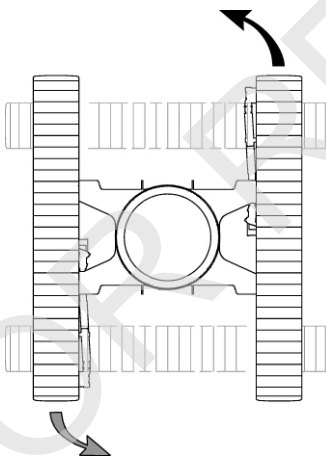

Figure 3-30. Counter-rotate Left
13. To COUNTER-ROTATE LEFT (Figure 3-30), move the right crawler control handle forward from the neutral position and move left crawler control handle back from the neutral position.